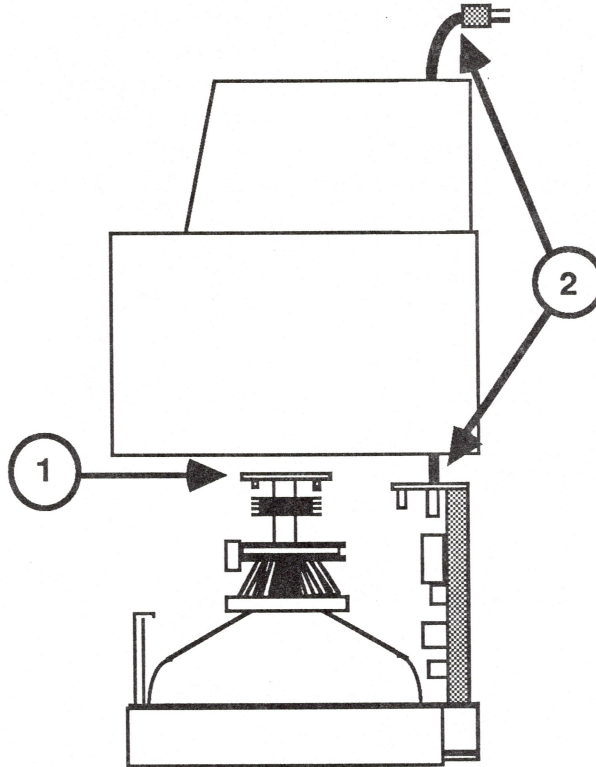

FIGURE 41
1. Orient the rear cover and monitor as shown in Figure 41; the monitor is face down.
2. Guide the AC power cord (Figure 41, #1) through the opening in the cover while you lower the cover onto the monitor.